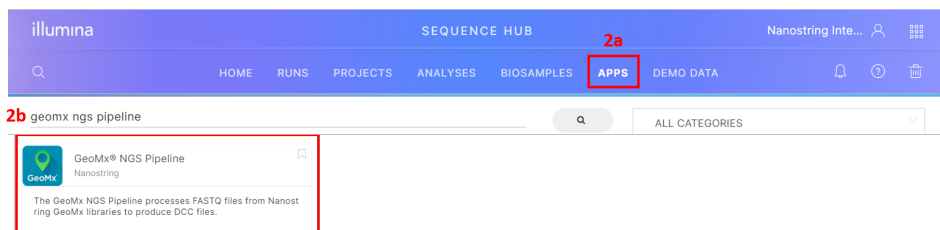

Figure 29: Locate GeoMx NGS Pipeline app
2. Select “Apps”, search for “GeoMx”, and select “GeoMx NGS Pipeline” (Figure 29).